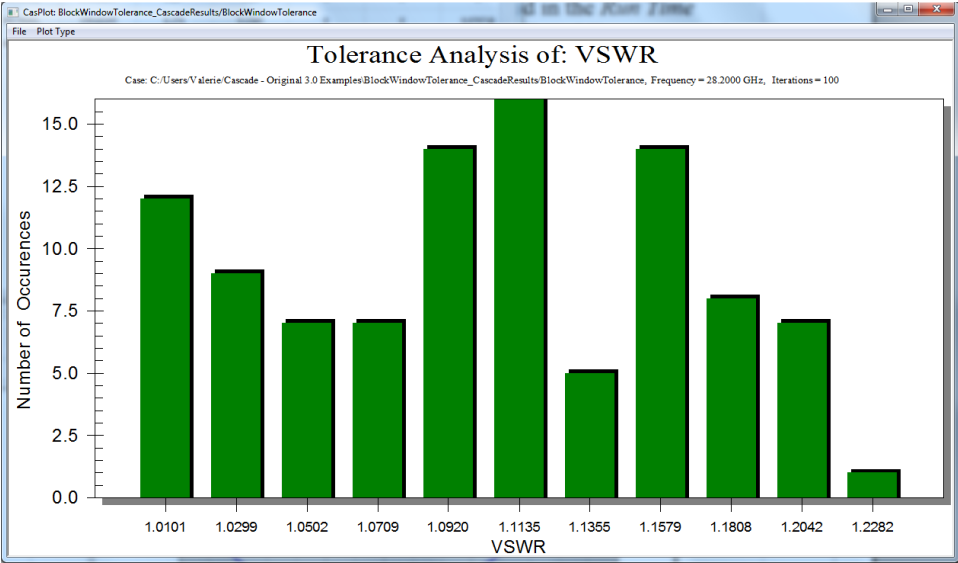

FIGURE 37. Performance histogram for +/-0.001 inch tolerance for ceramic thickness and 100 iterations.
11. The histogram plot should be similar to that shown in Figure 37 and indicate that approximately 95% of the iterations will meet the 1.2:1 VSWR requirement.